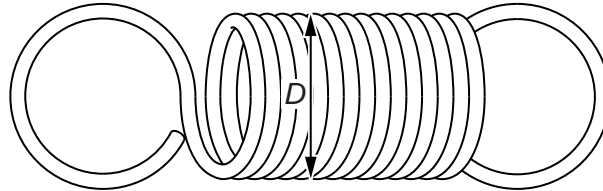

Fig. 2.1
- (a) (i) Measure and record the diameter  $D$  of the coiled part of the spring as shown in Fig. 2.1.